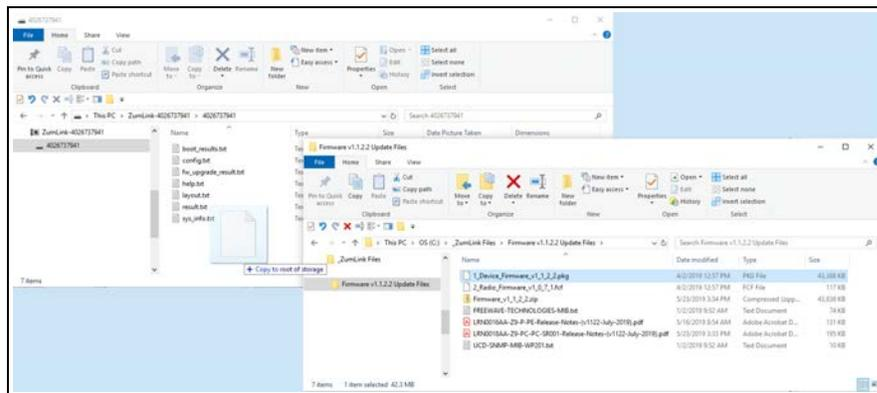

Figure 21: Drag and Drop the **.pkg** file to the **ZumLink** window
6. Drag and drop the **.pkg** file on to the **ZumLink** window. **Figure 21**